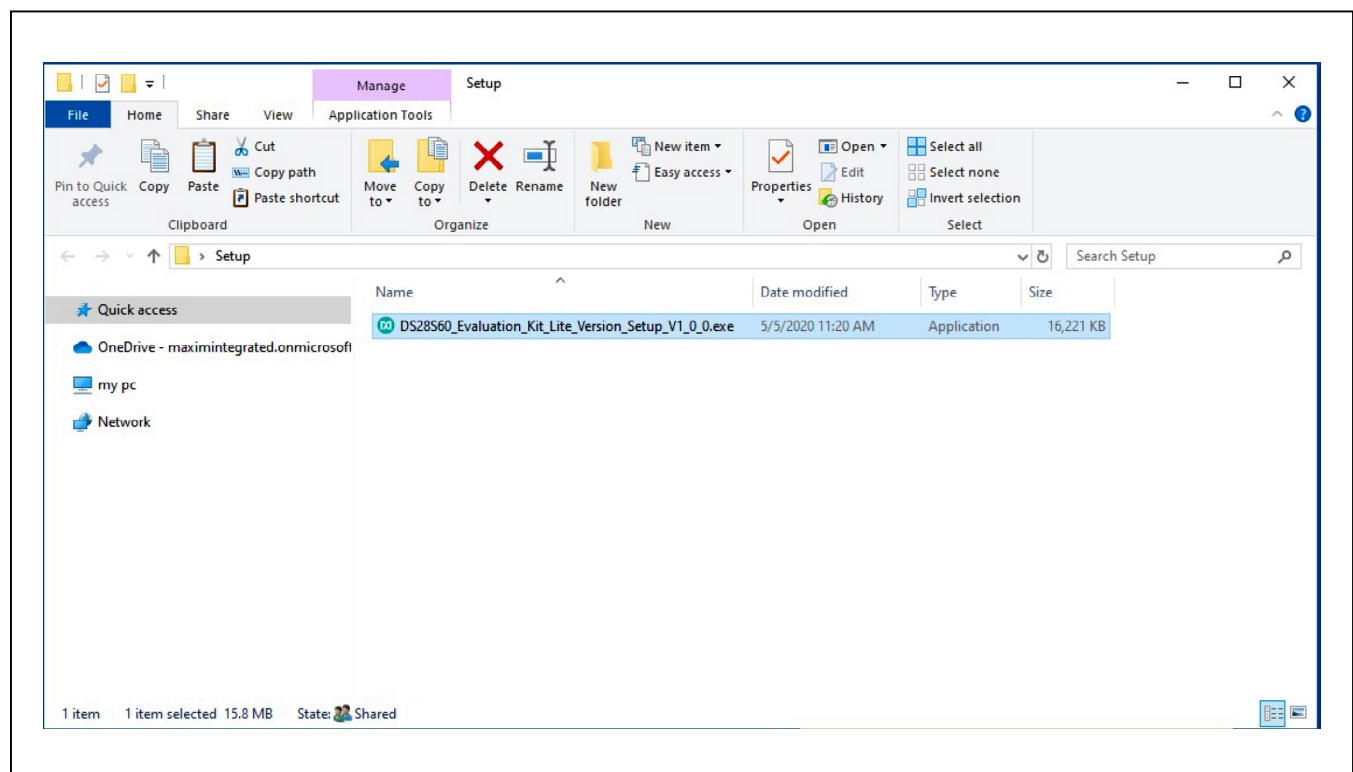

Figure 1. File Viewer
- 2) In a file viewer (Figure 1), double click on the **DS28S60 Evaluation Kit Lite Version Setup V1_0_0.exe** file to begin the installation.